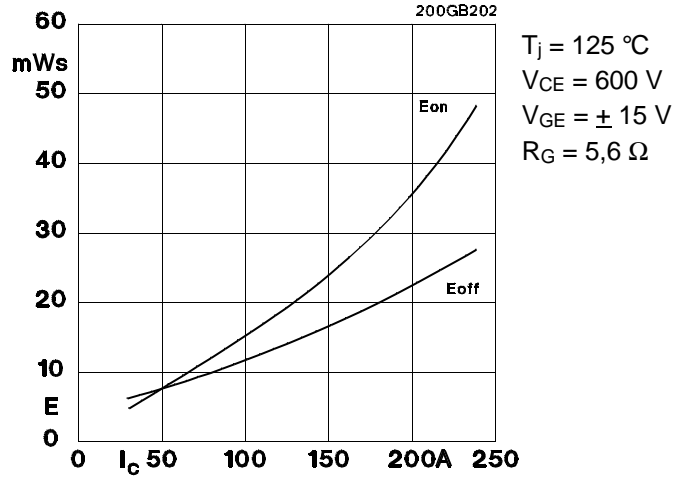

Fig. 2 Turn-on /off energy =  $f(I_C)$
5) See fig. 2 + 3; RGoff = 5,6 Ω